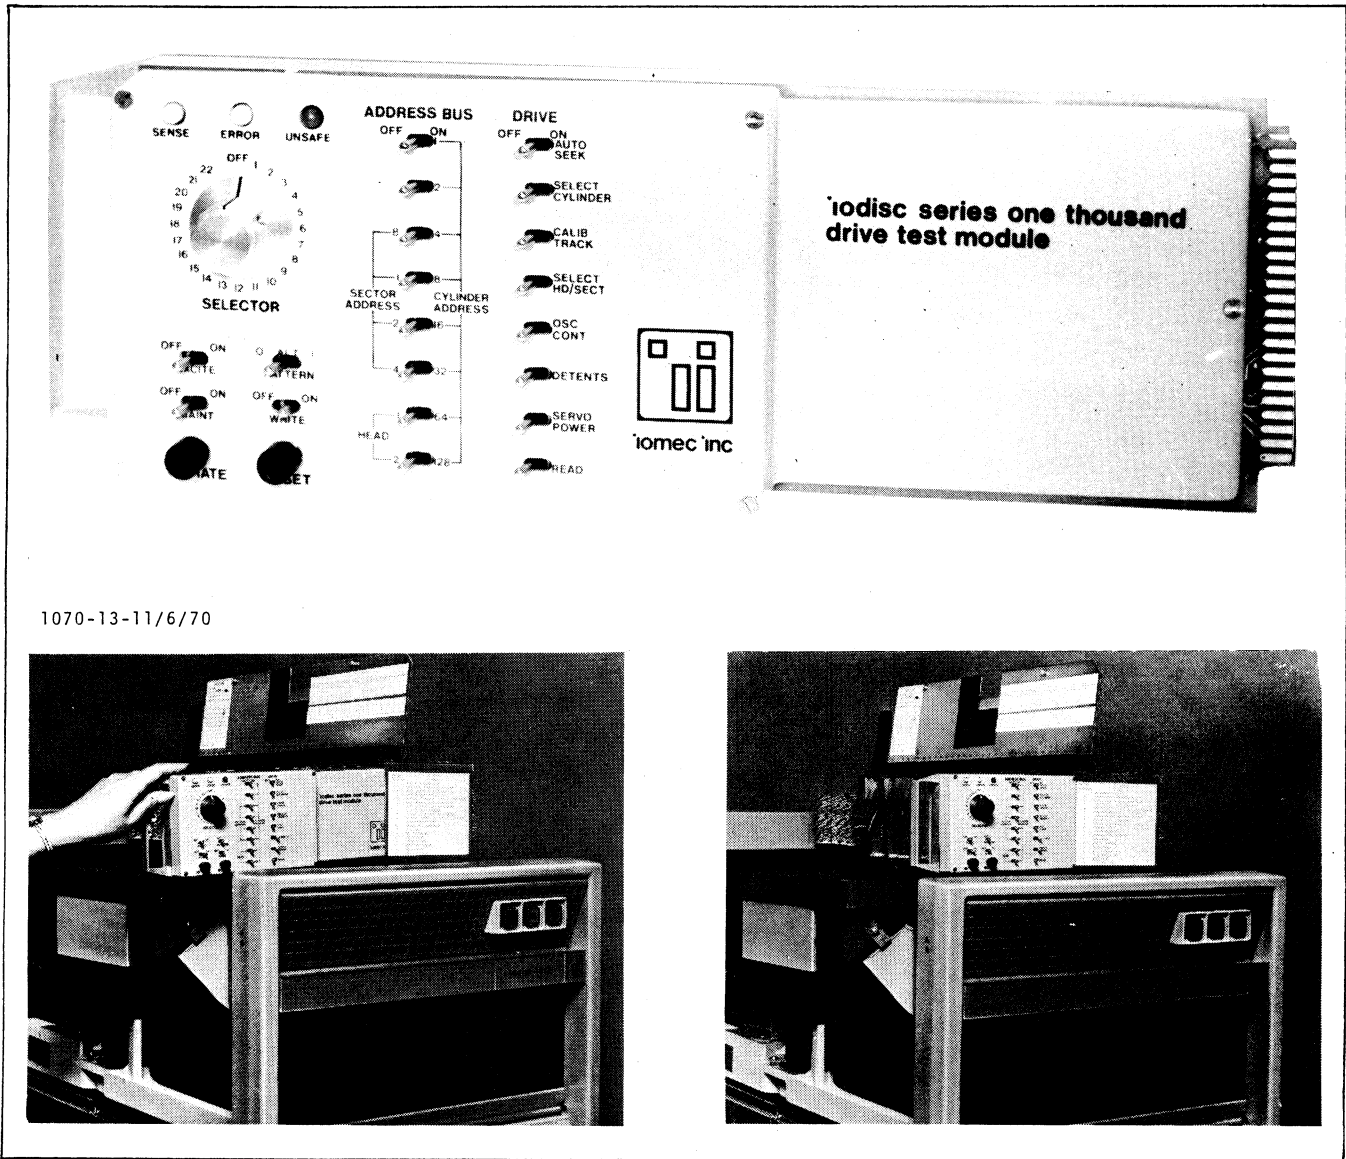

Figure 5-2. IODISC Test Module, IOMEC 7-1483
5.2.5 IODISC TEST MODULE. The IODISC Test Module (Figure 5-2) plugs directly into sockets 16 and 17 of the electronics gate on the drive, and provides a means for checking all drive major functions without the use of a computer or controller. Since it electronically disconnects signals from the computer or controller, it does away with the need of disconnecting interface cables.